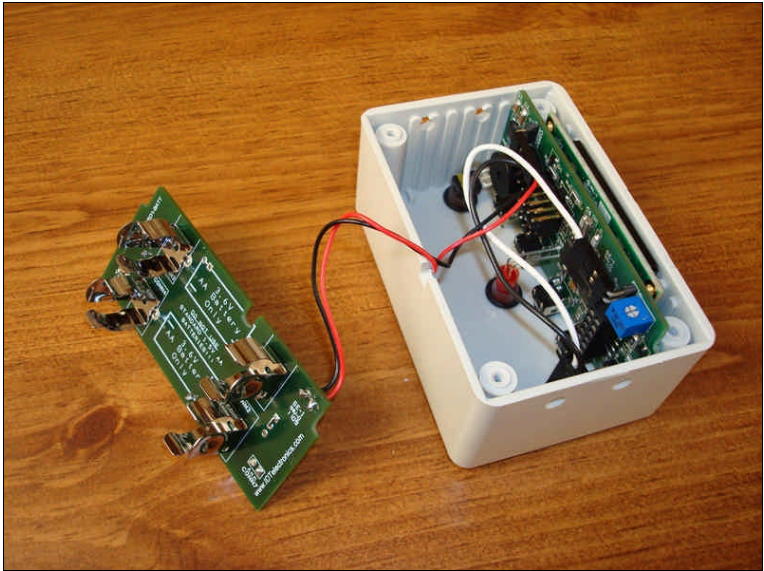

Figure 8: The main circuit board of the EPC-IRD1 is installed in the enclosure, while the battery circuit board is outside the enclosure.
**Note:** It is important to place the circuit boards in the box by using the correct “circuit board guides,” which are the ridges molded into the inside walls of the enclosure. Please note that the main circuit board is placed between the first circuit board guide and the round post in the corner of the enclosure, as shown in **Figure 8**. Further, you will note that the main circuit board is placed between the first circuit board guide and the round cylinder in the corner of the enclosure. Also, in order to make sure that the main circuit board is placed on the correct end of the enclosure, you will note that the rectangular cutout on the side of the enclosure should align with the small LCD (display) that is on the back side of the main circuit board.
If the battery circuit board of the EPC-IRD1 is not removed from the enclosure, as shown in **Figure 8**, you should carefully remove it now.